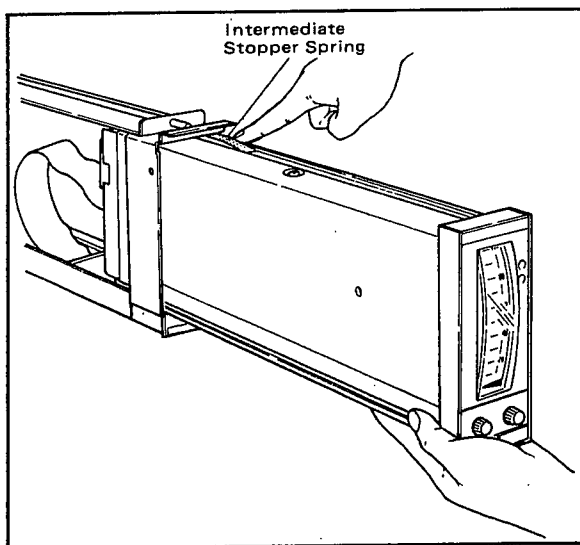

Figure 5-4. Pulling the Instrument Chassis (2).
- (2) To remove the instrument chassis from the housing, pull the instrument chassis pushing the intermediate stopper as shown in Figure 5-4.